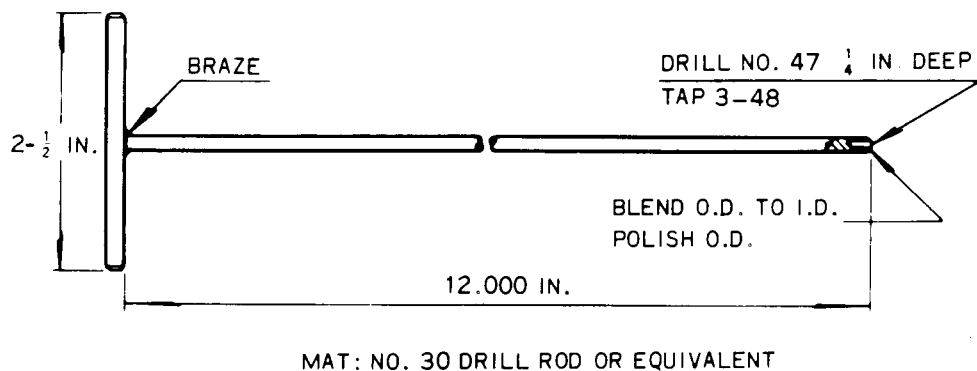

Figure 8-19. Assembly Tool
- (a) Fabricate a tool as shown in Figure 8-19 for installing the insulating sleeves over the cable terminals.